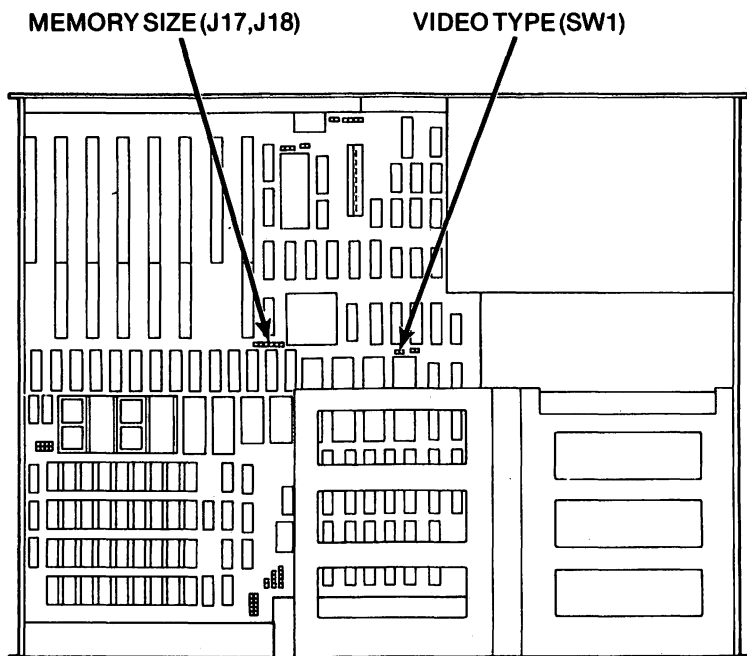

Figure 3-4
If you are adding or removing random-access memory (RAM) or are changing the type of video display, you must change jumper settings on the system board. The system board is located at the bottom of the system unit, as shown in Figure 3-4.
2. Locate the jumper pins labeled SW1 on the system board (see Figure 3-4). If you have a monochrome (TTL) video display, place the jumper block on only one pin. If you have a color, EGA, CGA (RGB) or black and white (composite) video display, place the jumper block across both pins.